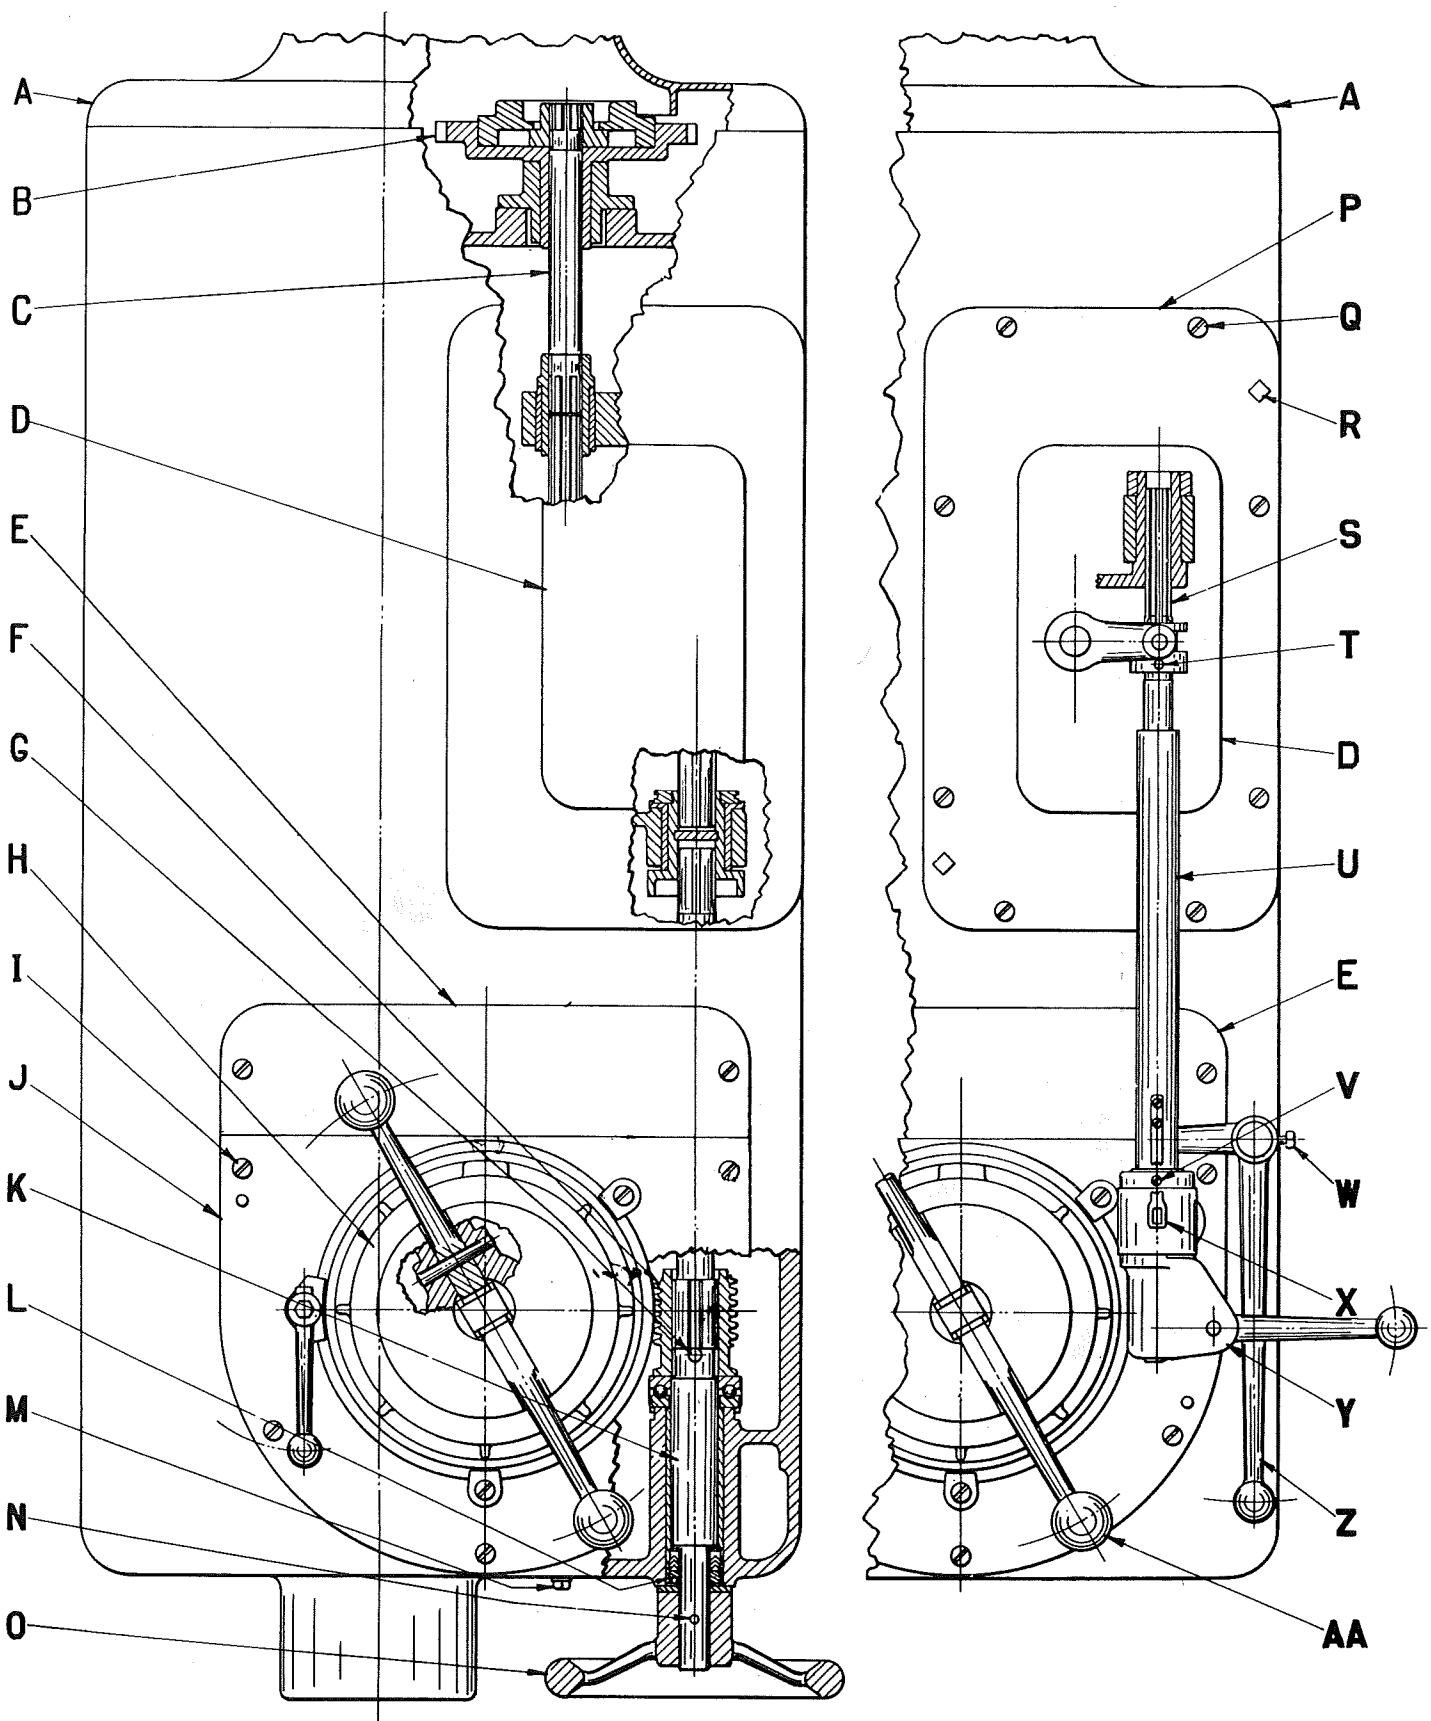

Fig. 25.
Refer to Fig. 25
13. Remove the quick-return clutch in accordance with instructions in connection with Fig. 25.